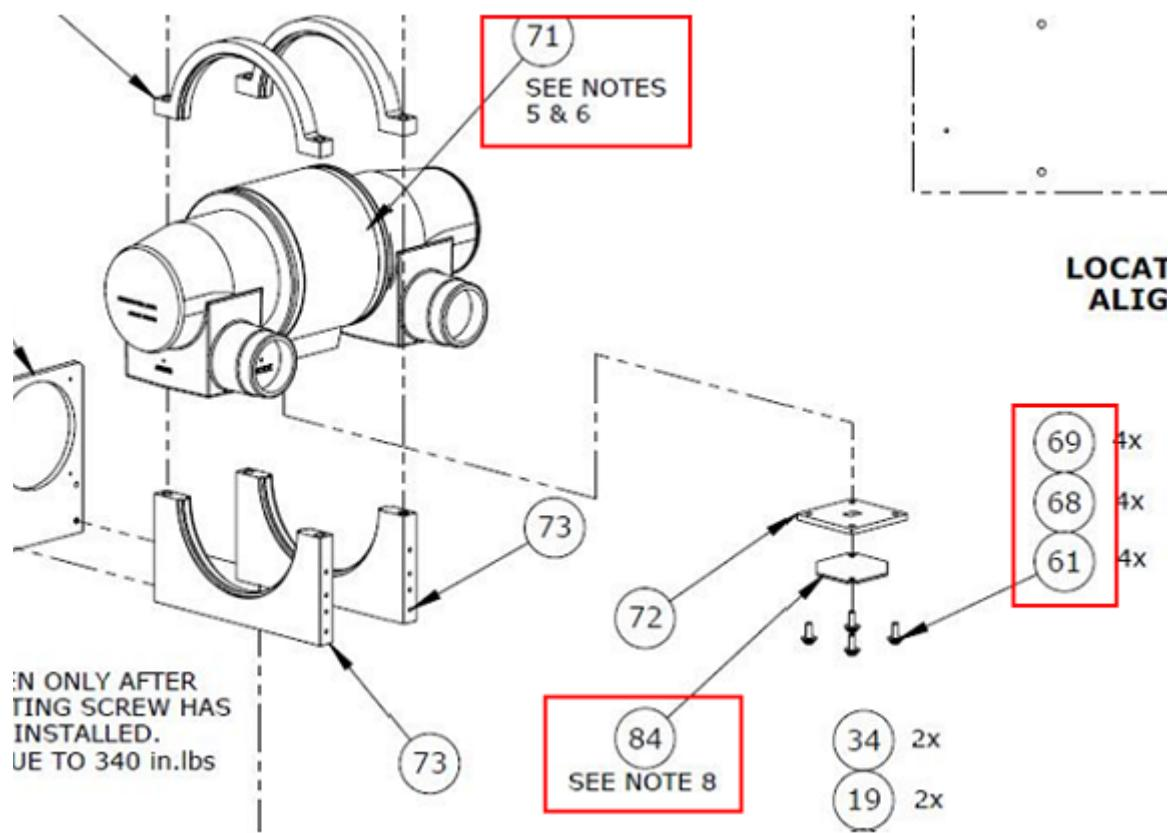

Figure 10-12
5. Remove the four screws and associated hardware, as indicated by the drawing (mark numbers 61, 68 and 69) (Figure 10-12)